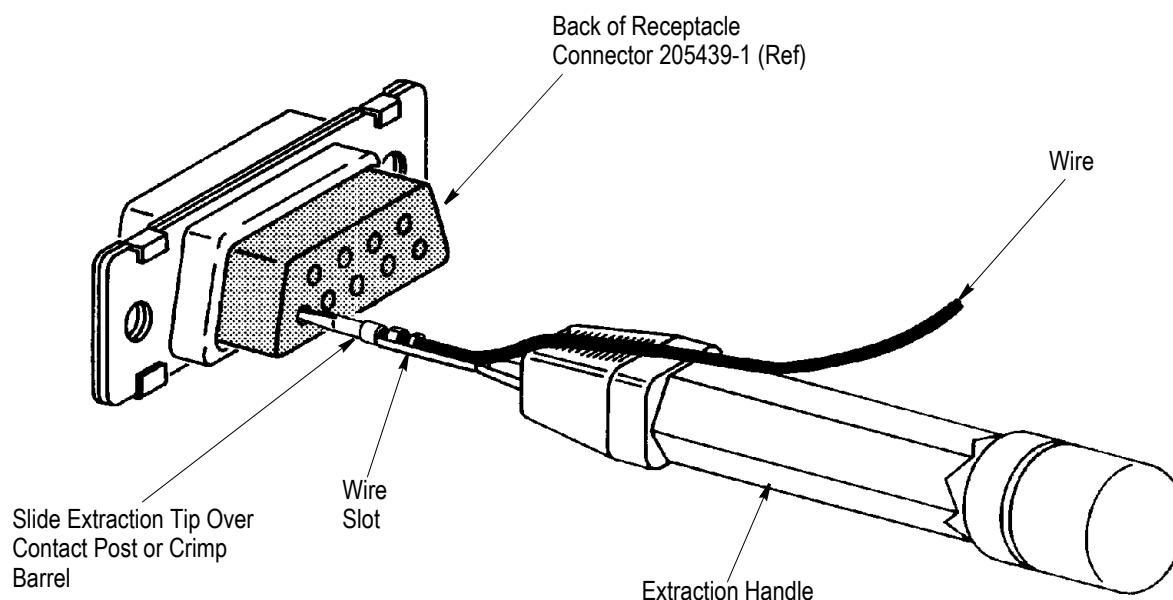

Figure 4
4.2. Extracting A Wire Crimped Contact (Figure 4)